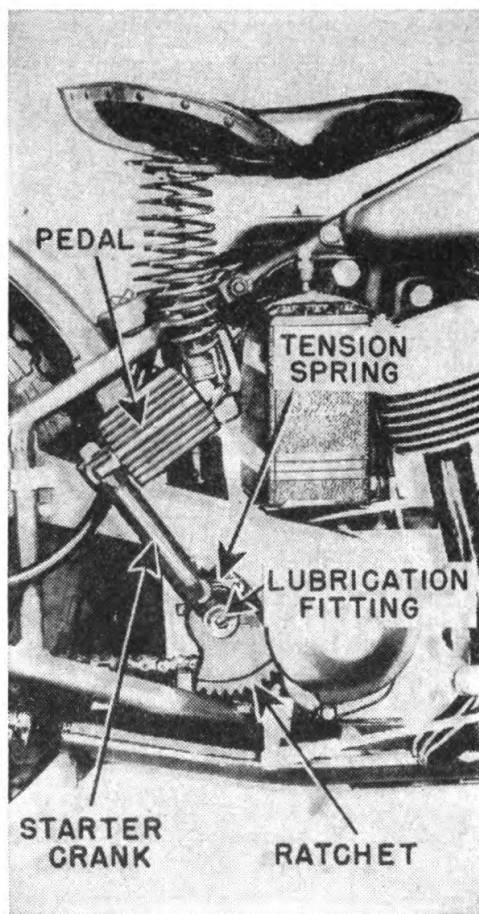

FIGURE 70.—Kick starter.
**59. Kick starter.**—The kick starter or starter crank by which the engine is cranked, is usually located at the right side of the motorcycle just below the saddle, as shown in figure 70. The kick starter is geared (by a ratchet) to the transmission so that a full swing will turn the engine several revolutions. A rubber pedal provides a non-slipping foothold. To start the engine, place the foot on the starter